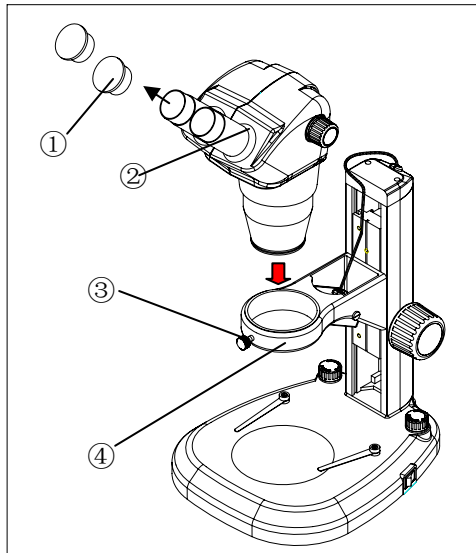
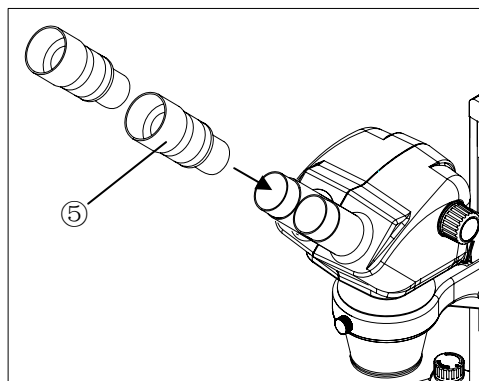

Fig 1
Fig 2
2.2.1 Assembly binocular head(fig. 1)
2.2.2 eyepiece assembly(fig1、 fig2)